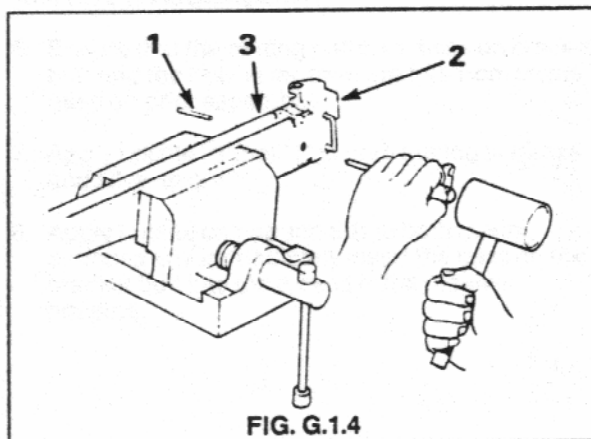

FIG. G.1.4
3. Clamp receiver in a vice. Drive out fixing pin securing bracket butt to receiver using a 5,8 mm diameter drift and hammer, and remove bracket butt. If difficulty is experienced in breaking the loctite seal between bracket butt and receiver, heat the assembly gradually until bracket butt can be removed. See Fig. G.1.4.